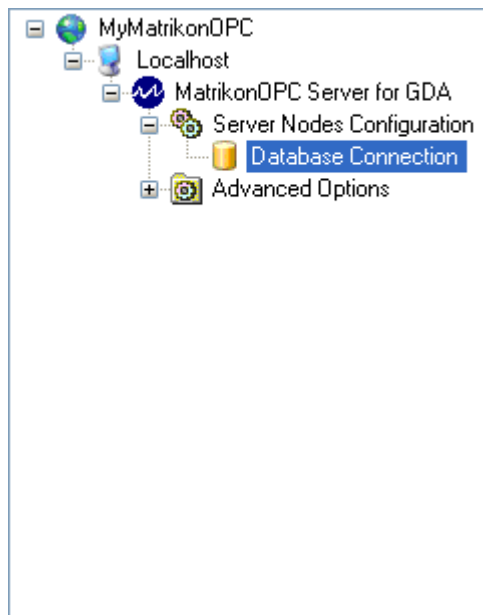

Figure 5 - New Database Connection Node
6. Click on the **Create** button. The new item is created and appears as a child of the **Server Nodes Configuration** node in the navigation pane as shown in Figure 5.